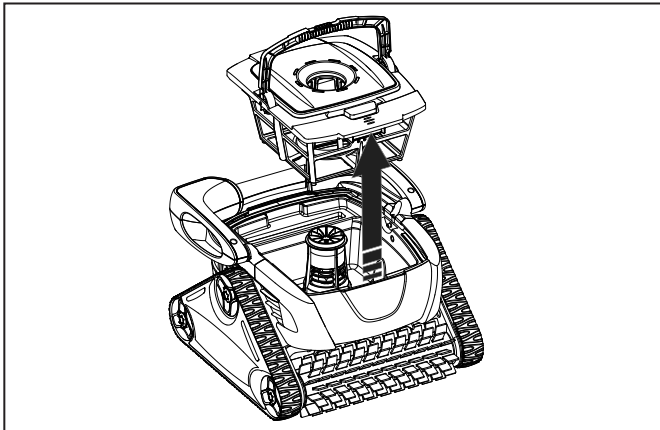

Figure 17. Remove the Filter Canister
3. Grasp the filter canister handle and lift up to remove the filter canister (see Figure 17).